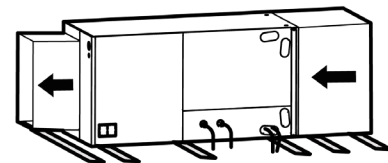

Fig. 2.2
- If air handler is installed as **Fig. 2.2**, make sure there is enough space for care and maintenance and the height between the air handler and ground is above 8 feet (2500 mm). and the air handler is not accessible to the general public.